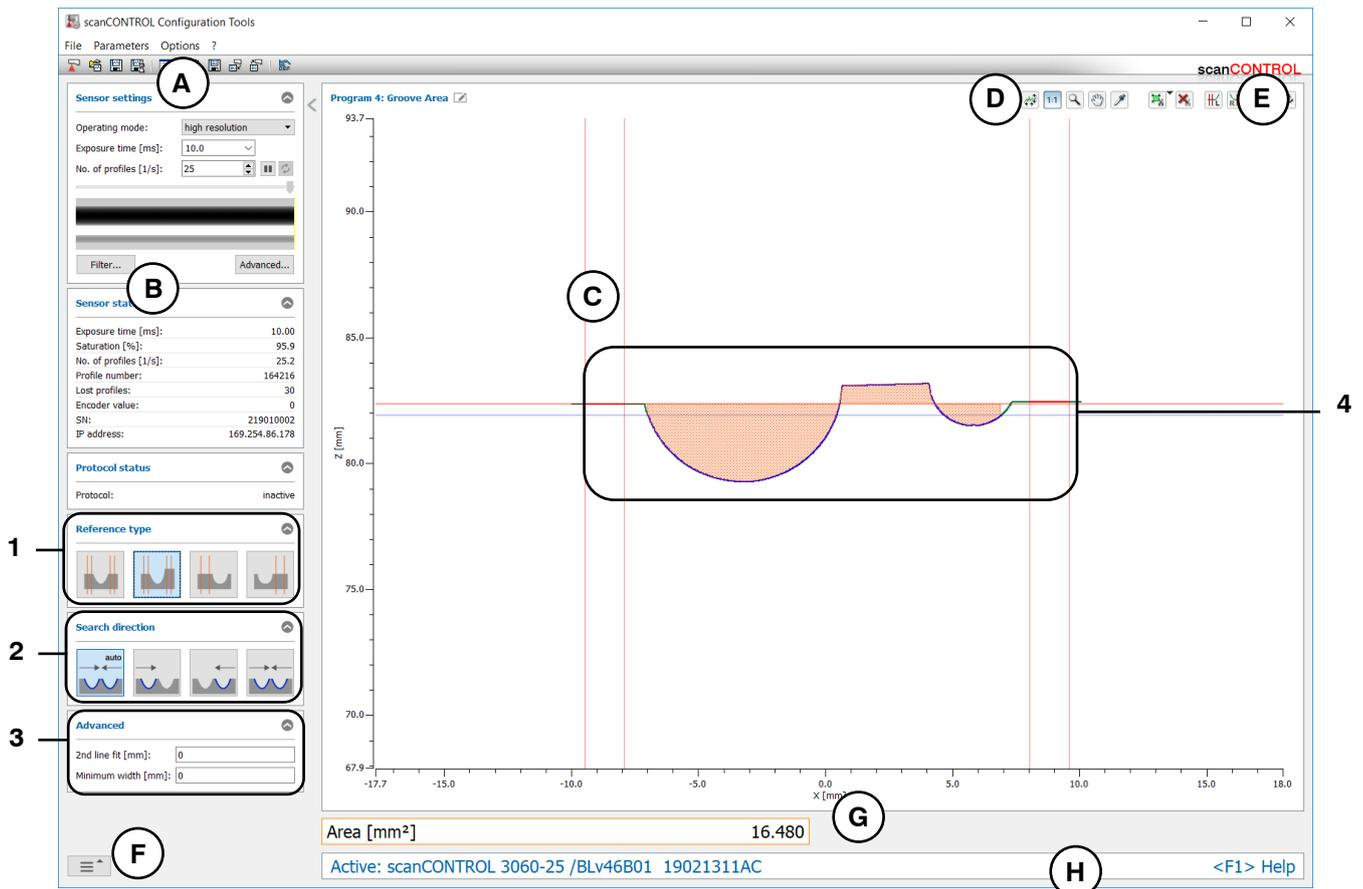

Fig. 4.35: "Groove Area" measuring program
- Define the type of deepening (see Fig. 4.35 and Chapter 3.13.1):